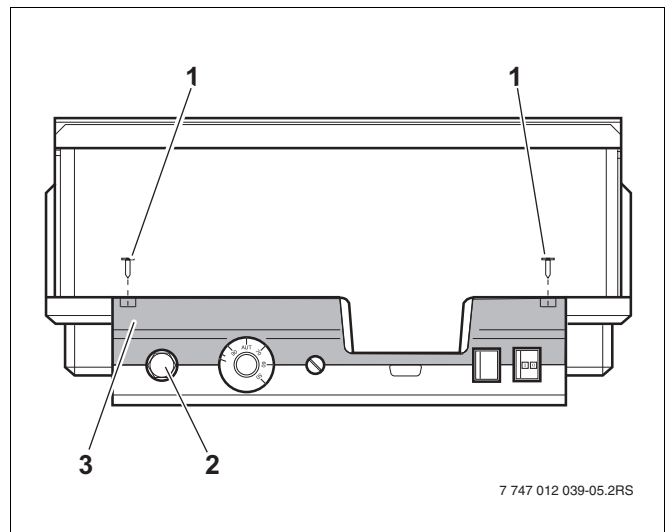

Fig. 1 Logamatic 4... control unit
- The high limit safety cut-out (STB) (→ Fig. 1, [2]) must be removed from the casing for the required temperature to be selected.
- Undo both screws (→ Fig. 1, [1]) to remove the high limit safety cut-out.
- Remove lid (→ Fig. 1, [3]).
- Remove protective cap (→ Fig. 1, [2]).